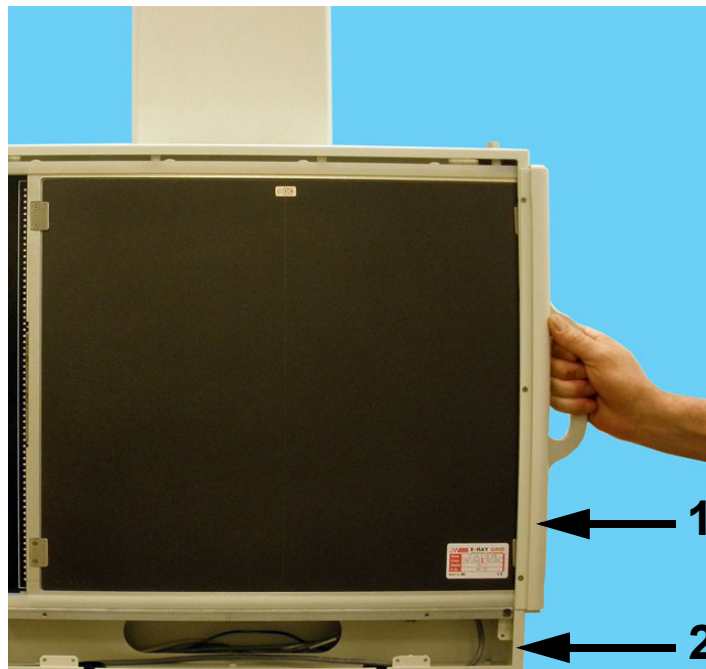

Figure E-17. Grid Installation
- 19** Reinstall grid tray (1 in Figure E-17). Reinstall cabinet tower cover.